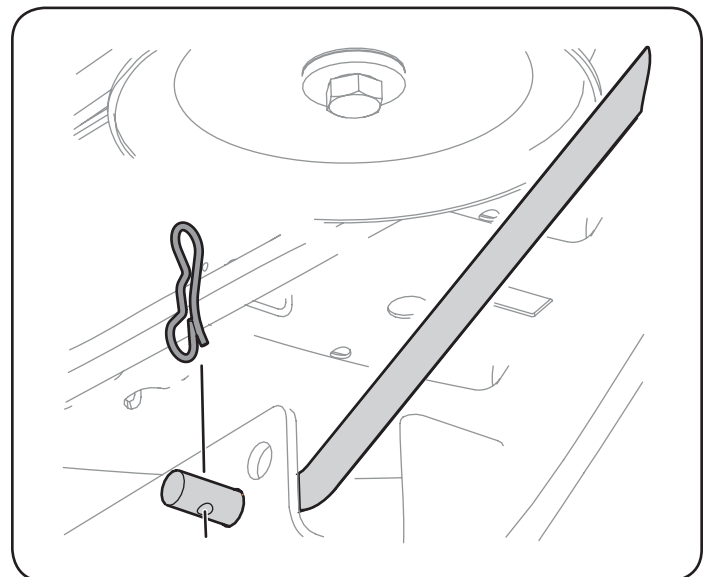

Figure 30
7. Pull the bow-tie pin out of the front deck lift rod securing it to the deck. See Figure 30. Slide the deck lift rod out of the front hanger bracket.